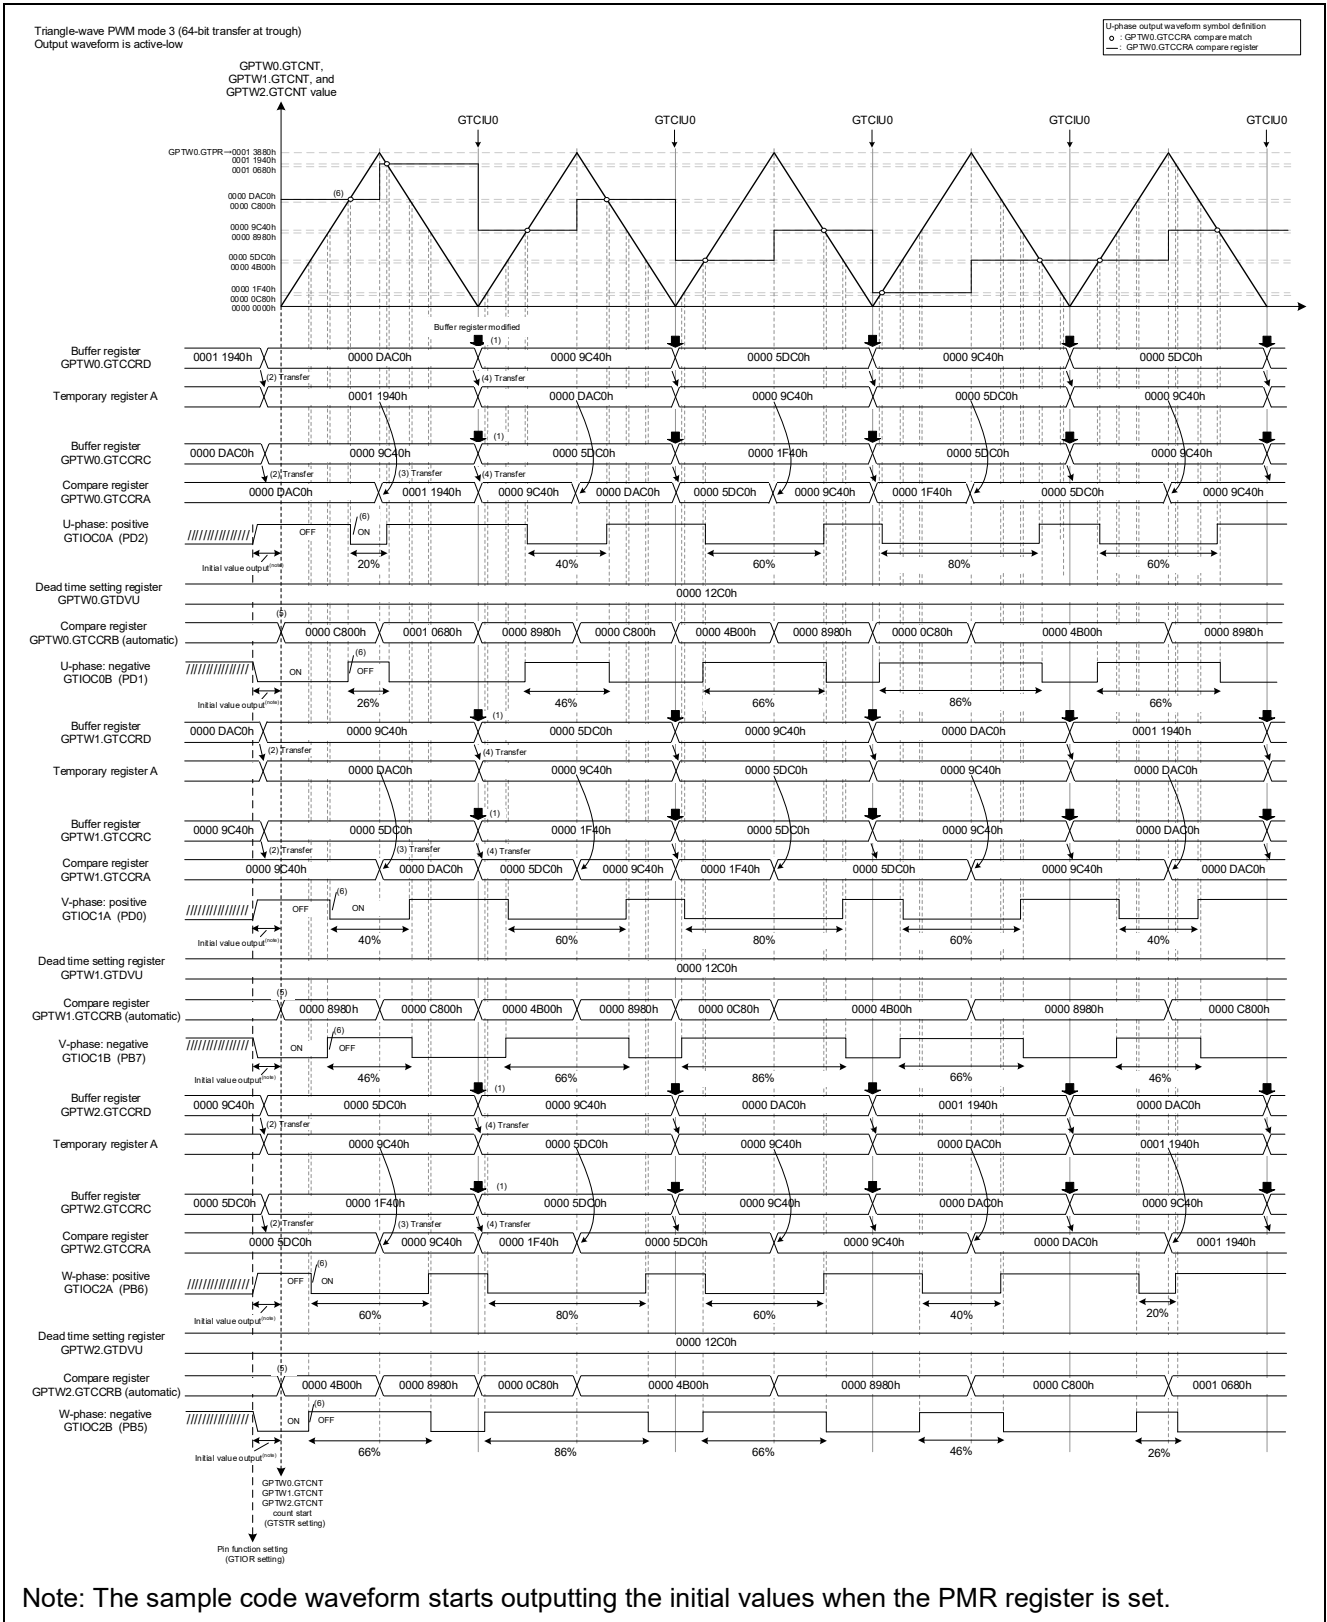

Figure 4.69 Sample Code Operations
- Refer to Figure 4.69 for details on duty change timing
The sample code operations are shown in Figure 4.69. The settings of the duty cycle are changed with each period by modifying the value of buffer registers GTCCRC and GTCCRD at the GTCNT counter underflow interrupt (GTCIU0) ((1) in Figure 4.69).
The initial values of the buffer registers for the code generated using the Smart Configurator are set to the same value as the compare register. As a result, the buffer register values are set in the user initialization function R_Config_GPT0_Create_UserInit before the counting starts. The values set in the registers are transferred from buffer register GTCCRD to temporary register A and from buffer register GTCCRC to compare register GTCCRA, respectively, by forced buffer transfers ((2) in Figure 4.69).
This sample code uses triangle-wave PWM mode 3 to update data by transferring temporary register A to compare register GTCCRA when a GTCNT counter overflow (crest) occurs ((3) in Figure 4.69) and transferring buffer register GTCCRD to temporary register A, and buffer register GTCCRC to compare register GTCCRA when a GTCNT counter underflow (trough) occurs ((4) in Figure 4.69).
After counting starts, a compare match occurs between the compare register and the counter register, negative-phase output turns OFF, and then positive-phase output turns ON ((6) in Figure 4.69).